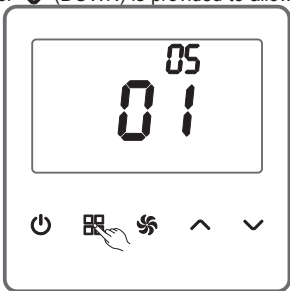

Figure 11
As shown in the Figure 11 on the parameter setting page, pressing $\square\square$ (MODE) activates a switch to the option number 05. \wedge (UP) or \vee (DOWN) is provided to allow a switch of “00”, “01” and “03”, adjusting the fan operation.
(6) Temperature calibration